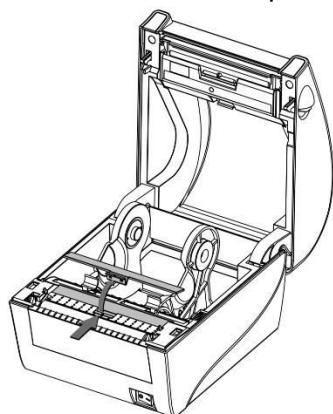

Figure 3.4-1
- 1) Push the part with arrow on the sensor cover board in the direction of the arrow, and turn the sensor cover board upward to take it off (see figure 3.4-1);
- 2) Push the part with arrow on the sensor cover board in the direction of the arrow, and turn the sensor cover board upward to take it off (see figure 3.4-1);